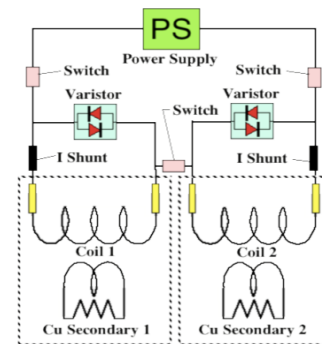

Fig. 3 Magnet Circuit used for the Quench Protection Simulation
6. The varistor can be put across the coil current leads to force the coil current into a shorted secondary (see Fig. 3). In an LTS magnet the coil current was reduced by 97 percent. This can be applied to HTS coils if they are well coupled with the low resistance secondary circuit.